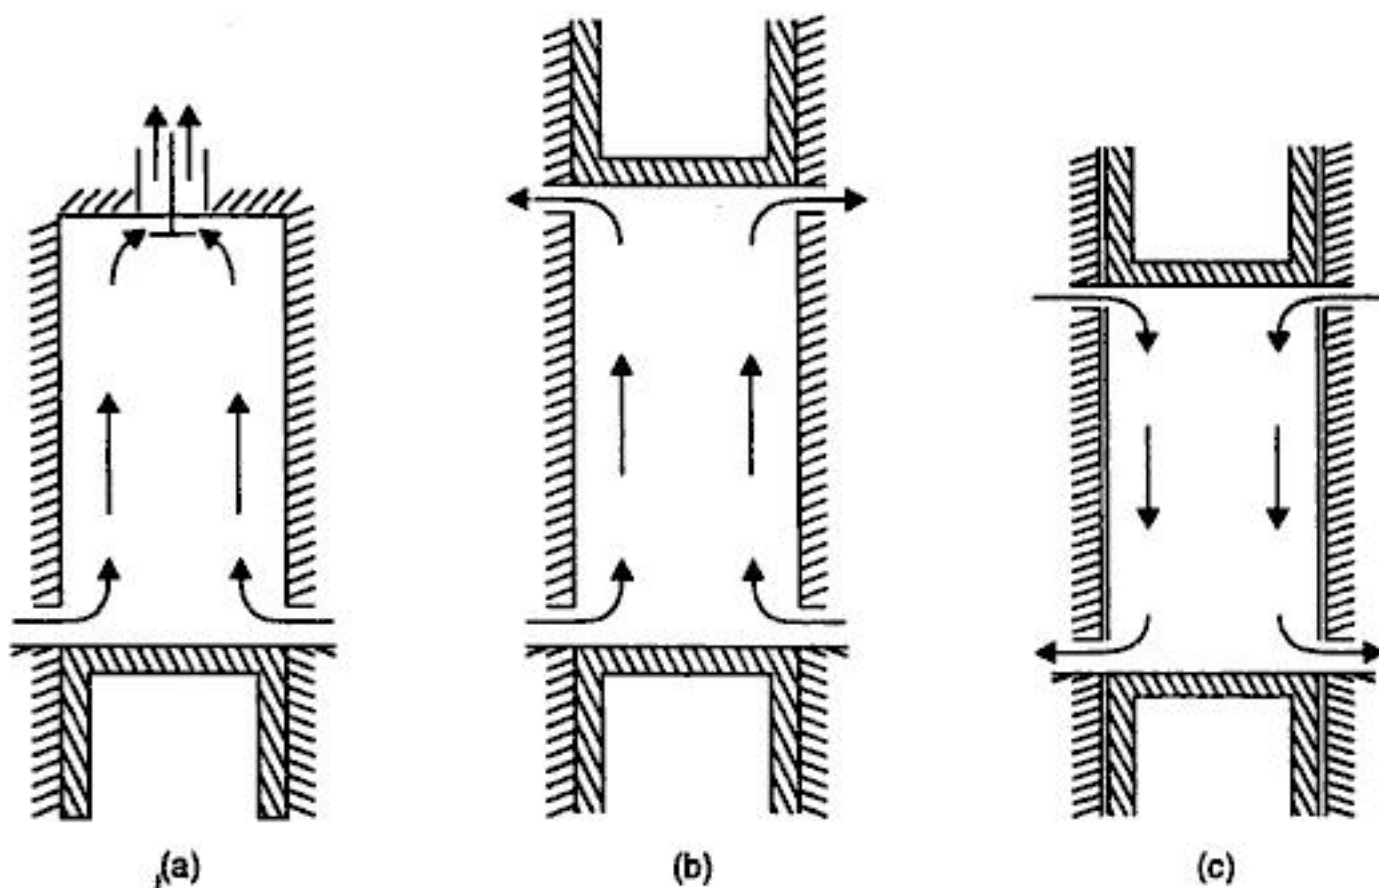

Fig. 8.5. Uniflow scavenging.
- The three available arrangements for uniflow scavenging are shown in Fig.8.5.